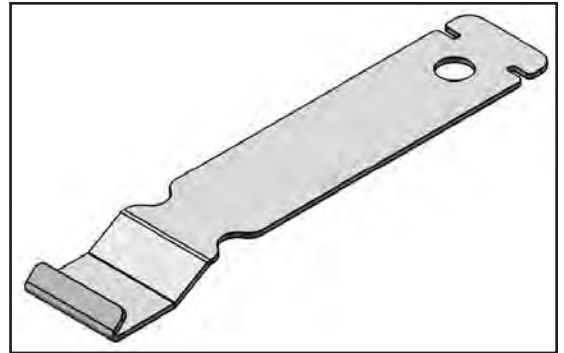
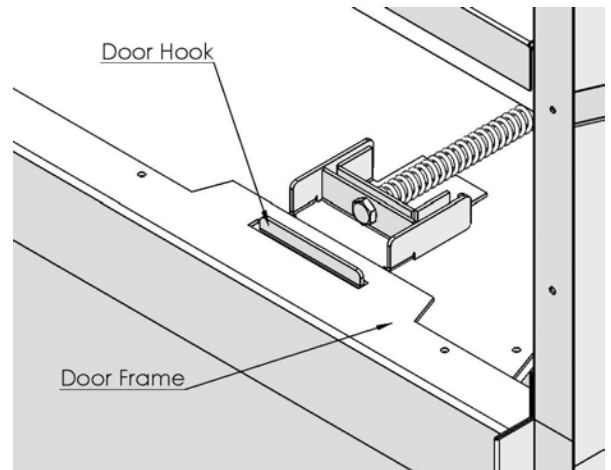

Figure 4: Door Latch /Air Adjustment Tool.
Figure 6: Door Latch Tool in Place.
- 1) The fireplace door is hung on two (2) hooks on the top of the firebox. The two (2) door latches at the bottom of the firebox hook over the tabs on the bottom of the door frame.
- 2) Lower the door latch tool underneath the door frame. Catch the lower door latch with the door latch tool (see Figure 4) and pull it out slightly, then down. Once the lower door latch clears the tab on the bottom of the door frame, release it inwards and then remove the door latch tool. Refer to Figures 6 & 7.